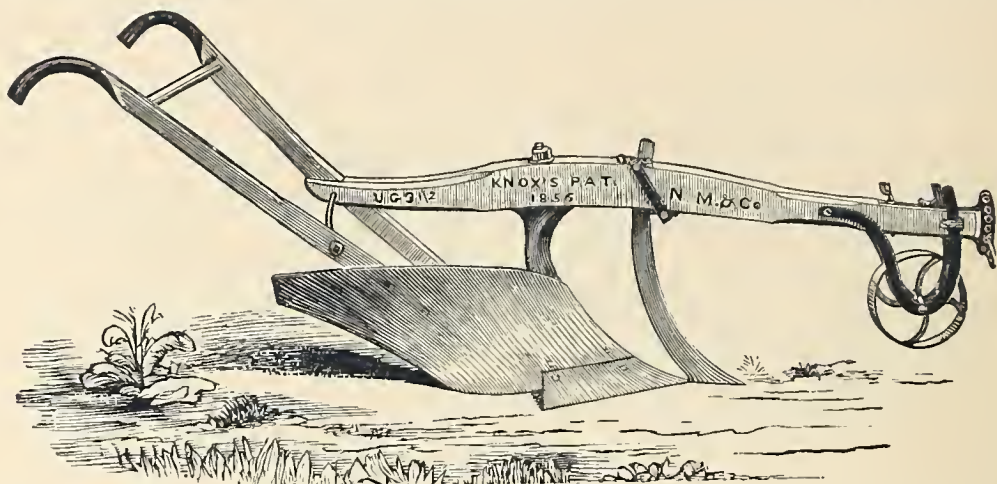
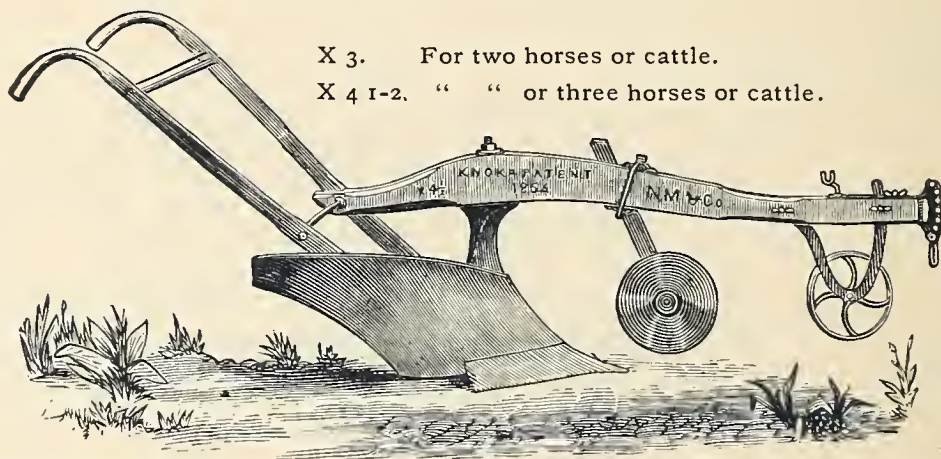

Fig. 269.—Boston Steel Clipper Plow, with Peacock Coulter.
Fig. 270.—Boston Steel Clipper Plow, X 4 1-2, with Circular Cutter.
**Circular Cutter and Peacock Coulter.**—In *Fig. 270* the Circular Cutter is shown, and the Peacock Coulter is shown in *Fig. 269*. These are used for breaking up prairie and grassy sod lands; some preferring one, and some the other fixture, although the Circular Cutter is more generally used.
**Boston Steel Clipper Plows, X 3 and X 4 1-2**, represented by *Fig. 270*, will give entire satisfaction to those desiring plows both for sod and stubble work. The X 3 is intended for two horses, and for stubble-furrows five to seven inches deep by ten to twelve inches wide; while, with a two or three horse team, the X 4½ will turn stubble-furrows six to eight inches deep by twelve to fourteen inches wide. These plows work wider in greensward.